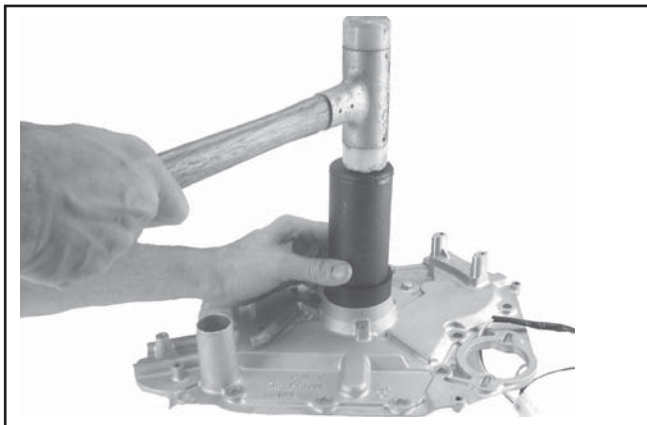

Figure 10-33. Installing Flywheel Side Oil Seal.
1. Lubricate the outside diameter and lip of the flywheel end oil seal. Support the closure plate and install the oil seal. Using a seal driver, drive the seal to a depth of **5 mm (0.196 in.)** in the seal bore. See Figure 10-33.
**Balance Weight:** Apply grease to the outside flat surfaces of the balance weight guide shoe. Position the guide shoe so the solid end is toward the crankshaft. See Figure 10-33. Keep the guide shoe stays in this position during the next step.